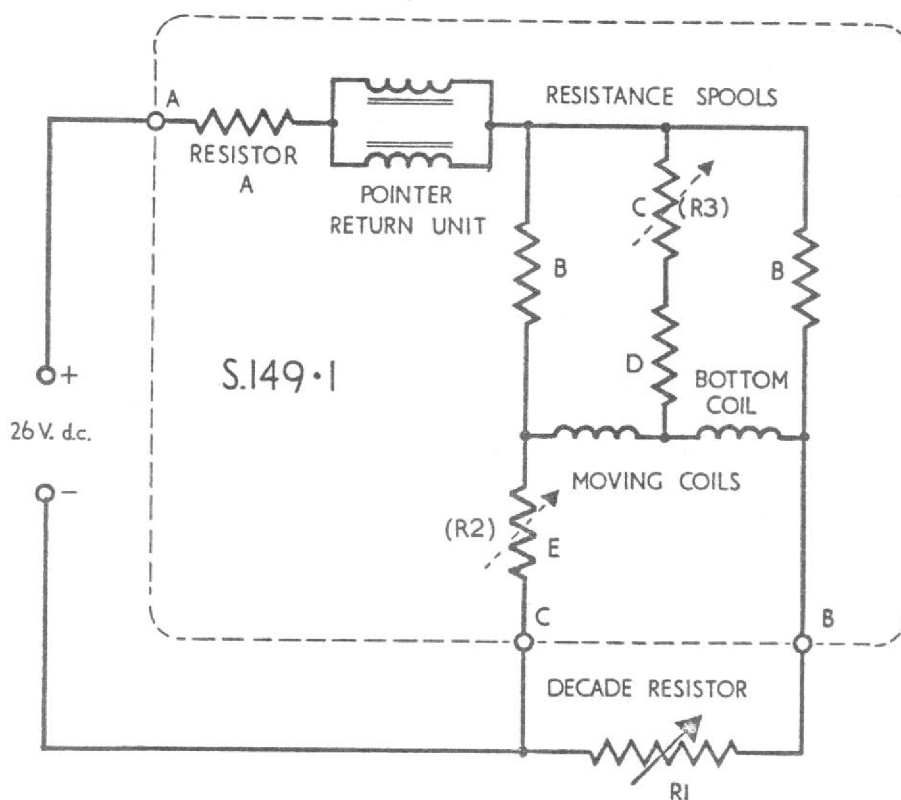

Fig. 3. Test circuit diagram. Temperature Indicator.
(1) Preparation
- (b) Connect the pre-determined spools in circuit and insert the two decade resistance boxes, R2 and R3, in place of the unadjusted spools, with a further decade resistance box, R1, in place of the resistance bulb (see Fig. 3).